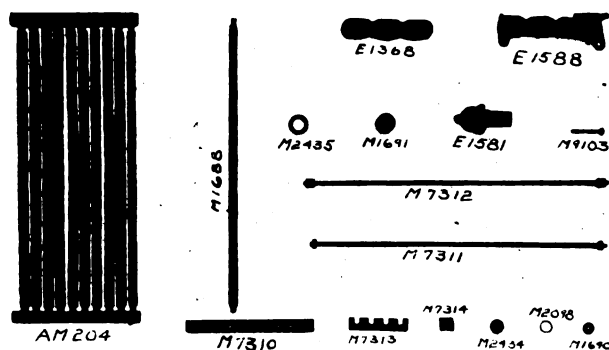

Fig. 30.
- 198 —** The radiator is built up with twelve sections AM 204 as shown in Fig. 30, six sections being on each side of radiator manifolds E1368 and E1588. Ten finned tubes M1688 set in two section headers comprise a radiator section. Tie rods M7311 and M7312 hold the section AM204 and the section on the opposite side of the radiator manifolds in place. Fig. 30 shows a view of radiator parts.